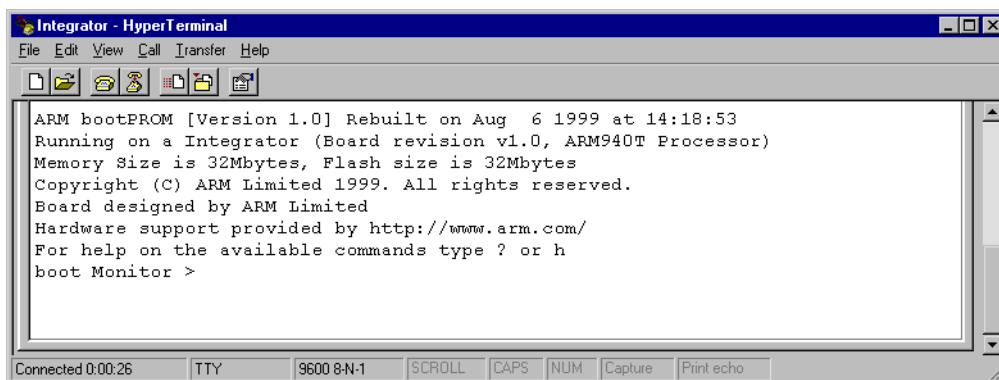

Figure 3-15 Terminal prompt
3. Apply power to the development board and establish that you can communicate with the board. You should now see the boot monitor prompt, similar to that shown in Figure 3-15.